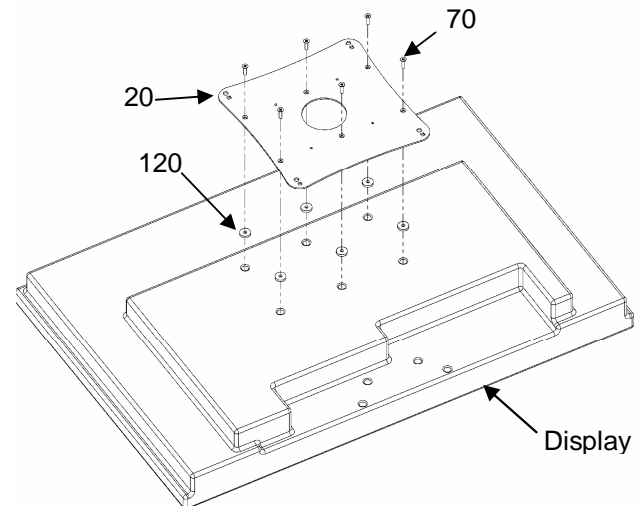

Figure 6. Attach Interface Bracket to Display
2. Place six spacers (120) over six mounting holes in display as shown in Figure 6.
3. Attach VESA Plate (20) to display using six M4 x 16mm flat head screws (70).